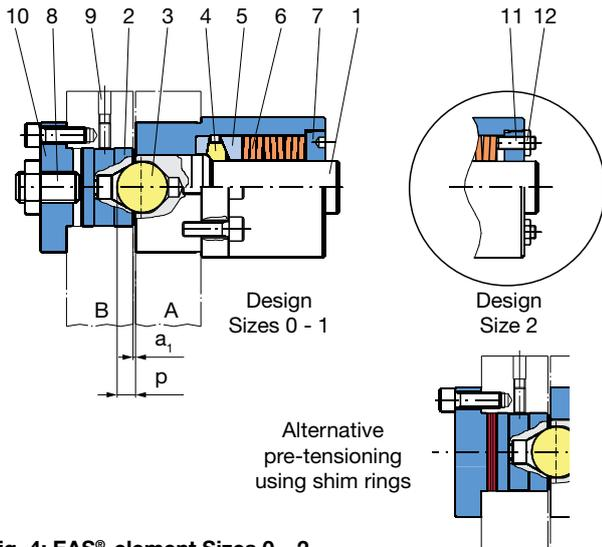
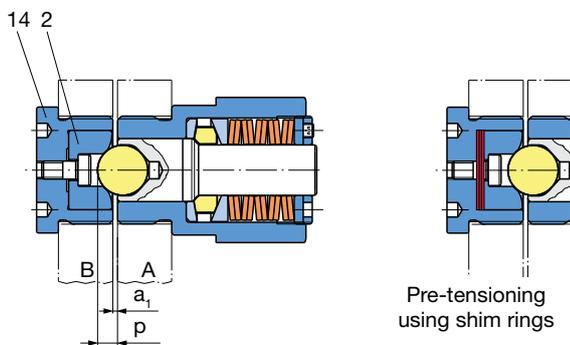

Fig. 4: EAS®-element Sizes 0 - 2
Fig. 5: EAS®-element Sizes 02 - 01
- Grease the thrust piece 2 (Fig. 4) or the adaptor bushing 14 (Fig. 5) well (Please use: grease NLGI class 2 with a basic oil viscosity of 220 mm²/s at 40 °C, e.g. Mobilgrease HP222) and insert in or screw onto flange B. The set screw 9 must be removed.
The limit torque for overload on the clutch is adjusted by changing the cup spring pre-tension of each element. For Sizes 02 - 1, adjustment is carried out via the adjusting nut 7, for Size 2 via 4 set screws 11 (Fig. 4). All 4 set screws must be evenly adjusted and countered. During torque adjustment, it is essential that all elements on the clutch are adjusted evenly.